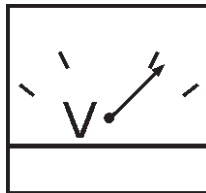

Figure 45. AC Voltmeter
10. The generator's voltage meter (Figure 45) displays the 120 VAC in **VOLTS**. If the voltage is not within the specified frequency tolerance,